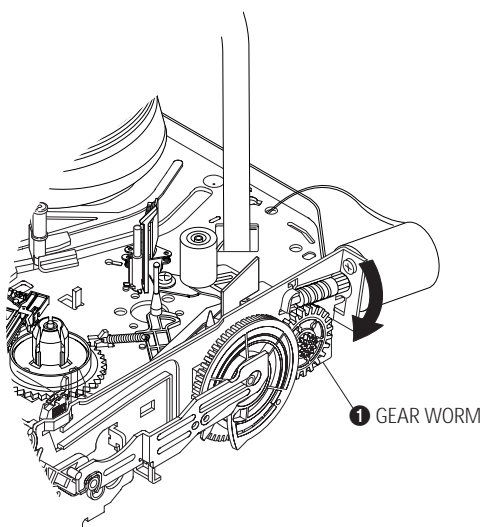

Fig. 2
- 1) Turn the Gear Worm ❶ clockwise in the direction of arrow with a screwdriver. (See Fig. 2)
- 3) Rotate Gear Worm ❶ clockwise using a screwdriver until the mecha is in the eject state. Remove the tape. (Refer to Fig. 2)